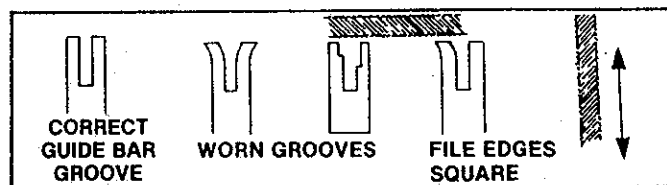

Figure 39
- Remove burrs by filing the side edges of the guide bar grooves square with a flat file. Figure 39.
- Restore square edges to an uneven rail top by filing with a flat file. Figure 39.